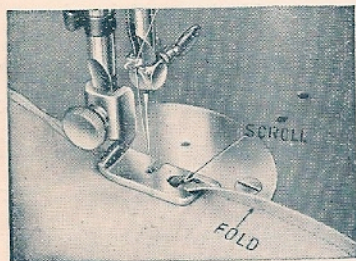

Fig. 28
Turn balance wheel toward you until needle reaches its highest point. Raise presser bar and remove the regular presser foot. Attach hemmer foot (Fig. 28). Now handle material as follows:
3. Lower presser foot and begin to sew. Guide material into hemmer foot while proceeding with work (Fig. 28).